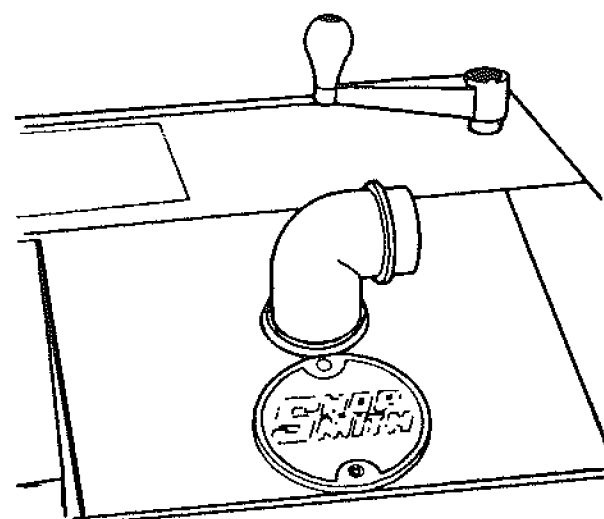

Fig. 6
8. Install the dust chute elbow by inserting the elbow securely into the dust chute, oriented as shown in Fig. 6.